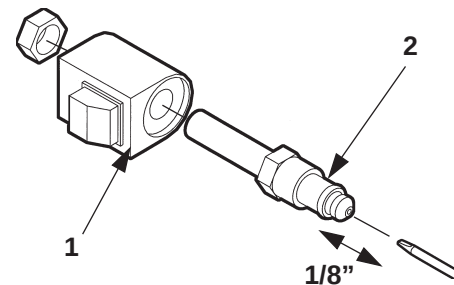

FIG. 49-2
2. Check the Valve Stem by removing the Coil Assembly (Item 1, FIG. 49-2). With platform on ground, unscrew the Valve Stem, (Item 2, FIG. 49-2) from the Pump. Push on the plunger that is located inside the Valve Stem by inserting a small screwdriver blade in the end. If the Plunger does not move freely (approximately 1/8") replace the Valve Stem. **When reinstalling valve stem, torque hex nut to 30 in-lbs.**